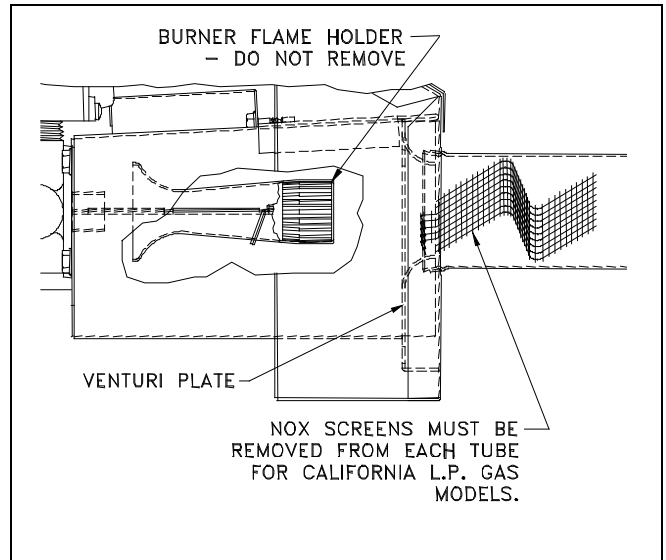

Figure 20. California NOx Screen Removal.
**WARNING:** Propane (LP) gas installations do not have gas meters to double-check input rate. Measure manifold pressure with an accurate manometer. Failure to accurately adjust pressure could cause heat exchanger failure.
2. Gas supply pressure must be between 11 and 13 inches W.C. for propane (LP) gas. See Section 12, "Gas Supply Pressure and Pilot Adjustment."
**WARNING:** Do not set Propane (LP) manifold pressure at 11.0 inches W.C. It could cause heat exchanger failure.
NOTE: NOx reducing screens must be removed from each tube of California NOx furnaces when converting to propane (LP) gas. See Figure 20.